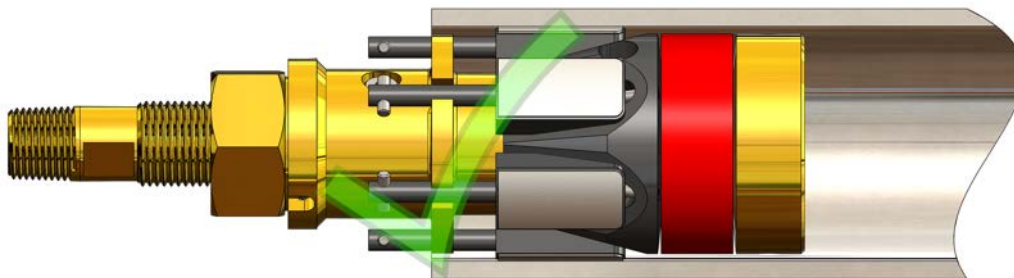
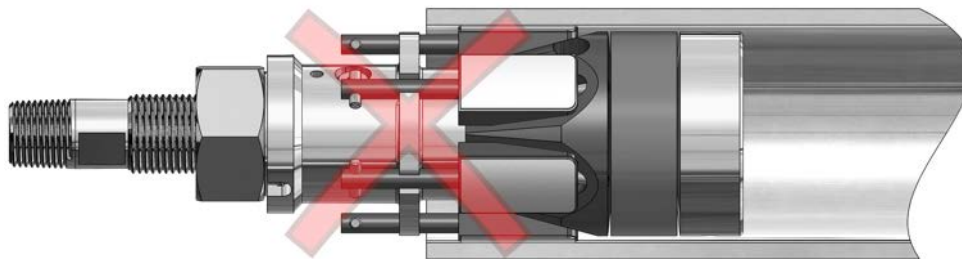

Figure 7: GripSafe ST ORB minimum insertion depth in a sectioned pipe
Figure 8: GripSafe ST ORB incorrect insertion depth in a sectioned pipe
- Once the **Wedge Grippers (11)** contact the pipe's inner diameter, they will automatically grip, making removal of the plug impossible. Refer to Section 8 for instructions on plug removal, if necessary.
6.4 Push the GripSafe ST ORB plug deeper into the pipe to reach the desired depth. The top of the **ORB Spring Plate's (3)** slotted section should not extend beyond the face of the fitting or pipe. Refer to Figure 7 for a properly installed plug and Figure 8 for an improperly installed one. If needed, the top of the **ORB Spring Plate's (3)** slotted section can be inserted further into the fitting or pipe.